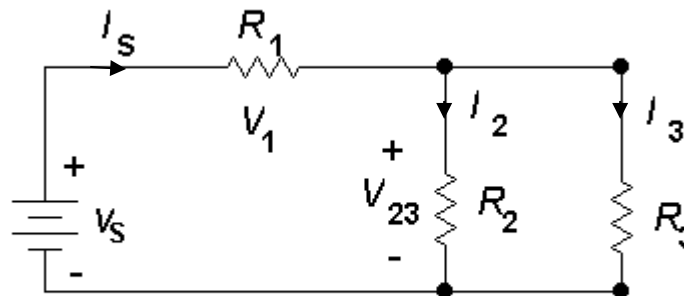

Figure 8 - 1
The circuit in this experiment (see Figure 8 -1) contains a simple combination of two parallel resistors in series with a third resistor. Using Kirchhoff's Voltage Law, Kirchhoff's Current Law, and Ohm's Law, you can solve for all currents and voltages. In this case, you will calculate theoretical values for all of the quantities and verify them experimentally.
- Complete Table 8 -1 by calculating the nominal, minimum, and maximum values for the total circuit resistance R_T of the circuit in Figure 8 -1, and then measuring this resistance using an ohmmeter.
- Using a value of V_S of 10 V, calculate the nominal, minimum, and maximum values for I_S in the circuit of Figure 8 -1 and record them in Table 8 -2.
- In Figure 8 -1, if R_2 were less than nominal, then for a given voltage V_S ,
6. How many different possible values of R_T are obtainable with the three resistors if each circuit is to be a series-parallel combination of the kind in Figure 8 -1? Calculate all of the possible values using the resistors in this experiment.